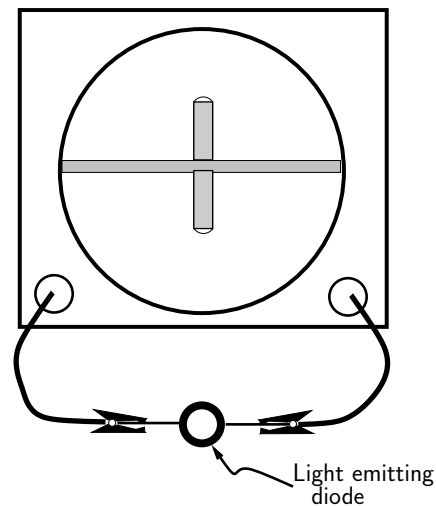

Figure 12.7: Simple generator. Magnets squeeze rubber band between them; coil is hooked up to a light emitting diode (LED).
2. Set things up as shown in Figure 12.7. Two magnets should be placed together so that they pinch the rubber band between them. Take a light emitting diode (LED) from your bench and hook it to your coil as shown. Make sure the alligator clips are not touching each other. Twist the magnets about the band multiple times, which should wind up the rubber band as well. **Be careful about winding too much — if the magnets spin too fast they'll come flying apart!** Now, release the magnets and watch the LED. What do you see?